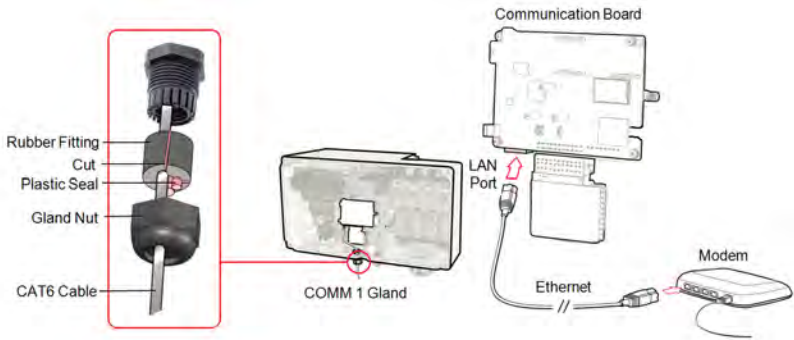

Figure 30: Inserting the Ethernet (CAT6) cable
- Connect the Ethernet connector to the RJ45 port on the communication board as shown in *Figure 30*.